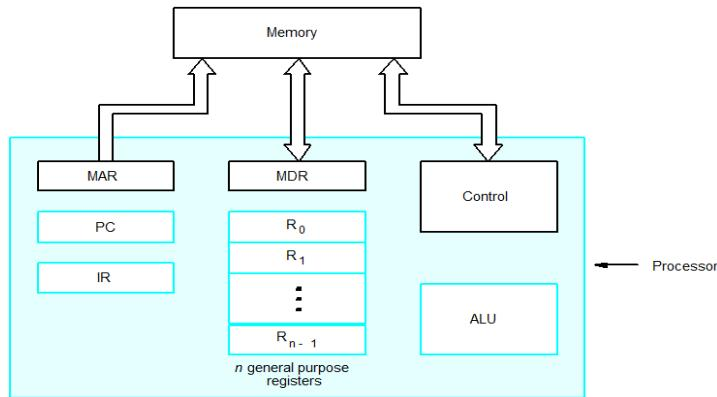

Figure 1.2. Connections between the processor and the memory
Figure 1.2 below shows how the memory and the processor are connected. As shown in the diagram, in addition to the ALU and the control circuitry, the processor contains a number of registers used for several different purposes. The **instruction register** (IR) holds the instruction that is currently being executed. The **program counter** (PC) keeps track of the execution of the program. It contains the memory address of the next instruction to be fetched and executed. There are n general purpose registers R0 to Rn-1 which can be used by the programmers during writing programs.